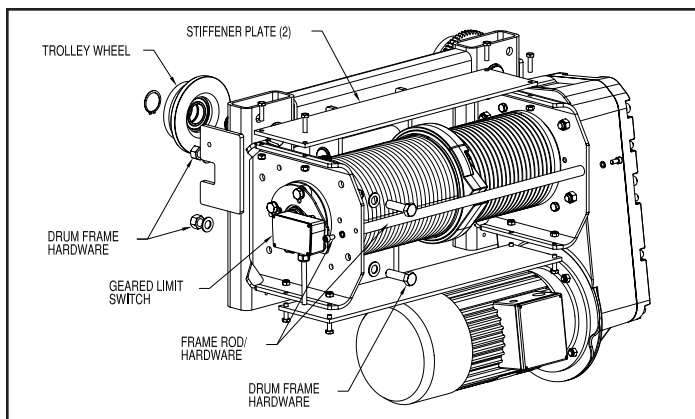

Figure 5-6. Drum Frame & Geared Limit Switch ("B" & "C" Frame Shown)
- Remove the geared limit switch or disconnect the wires so that the electrical cable will not inhibit removal of the drum. (see Figure 5-6).
- Remove the hoist from the beam, place it on the ground and provide adequate means to support the drum before removing the frame rod cap screw(s) and stiffener plate hardware ("B" & "C" Frame only) at the outboard end drum frame (see Figure 5-6).